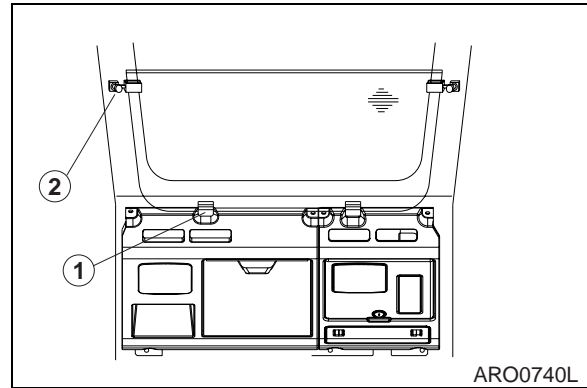

Figure 116
2. Set bottom window in rubber holders (1, Figure 116) behind operator's seat. Secure window to cab with left and right knobs (2).